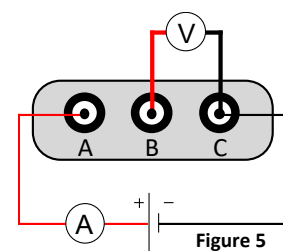

Figure 5
- h. Now move the wires from the ammeter and power supply to the **A** and **C** connectors; this will replace the large resistor with the large resistor-LED combination (**Figure 5**). Move the voltmeter wires to the **B** and **C** terminals to measure the voltage across the LED.
- i. Draw a new circuit diagram (not Figure 5!), using the LED symbol from Table 1.